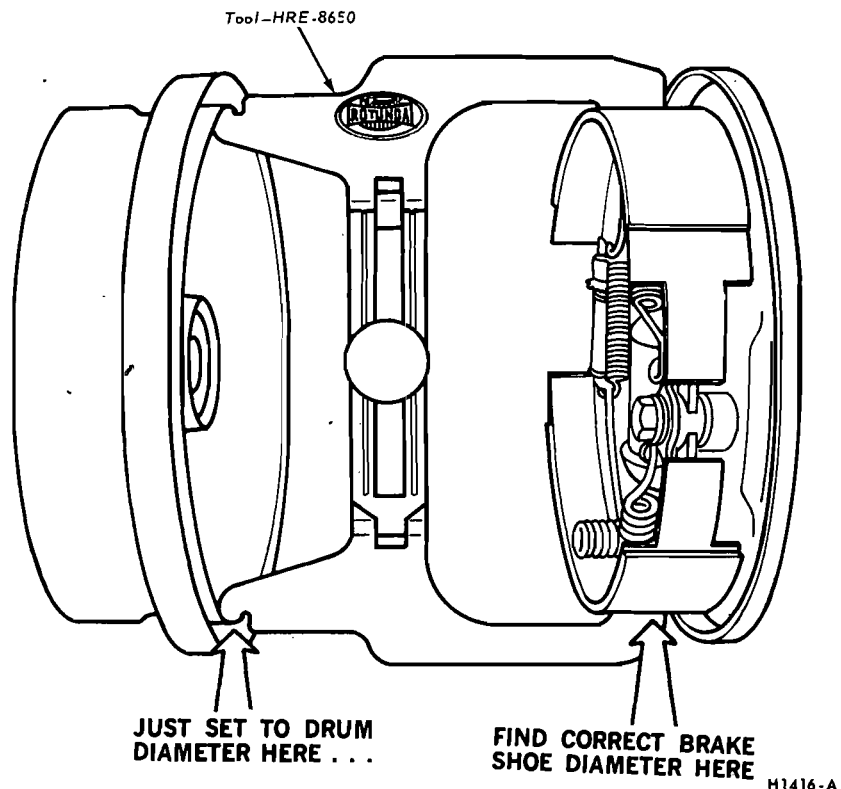

FIG. 4 Adjusting Brake Shoes Using Tool HRE-8650
1. Use Rotunda Tool HRE 8650, (Fig. 4) to determine the inside diameter of the drum braking surface.
2. Reverse the tool as shown in Fig. 4 and adjust the brake shoe diameter to fit the gauge. Hold the automatic adjusting lever out of engagement while rotating the adjusting screw, to prevent burring the